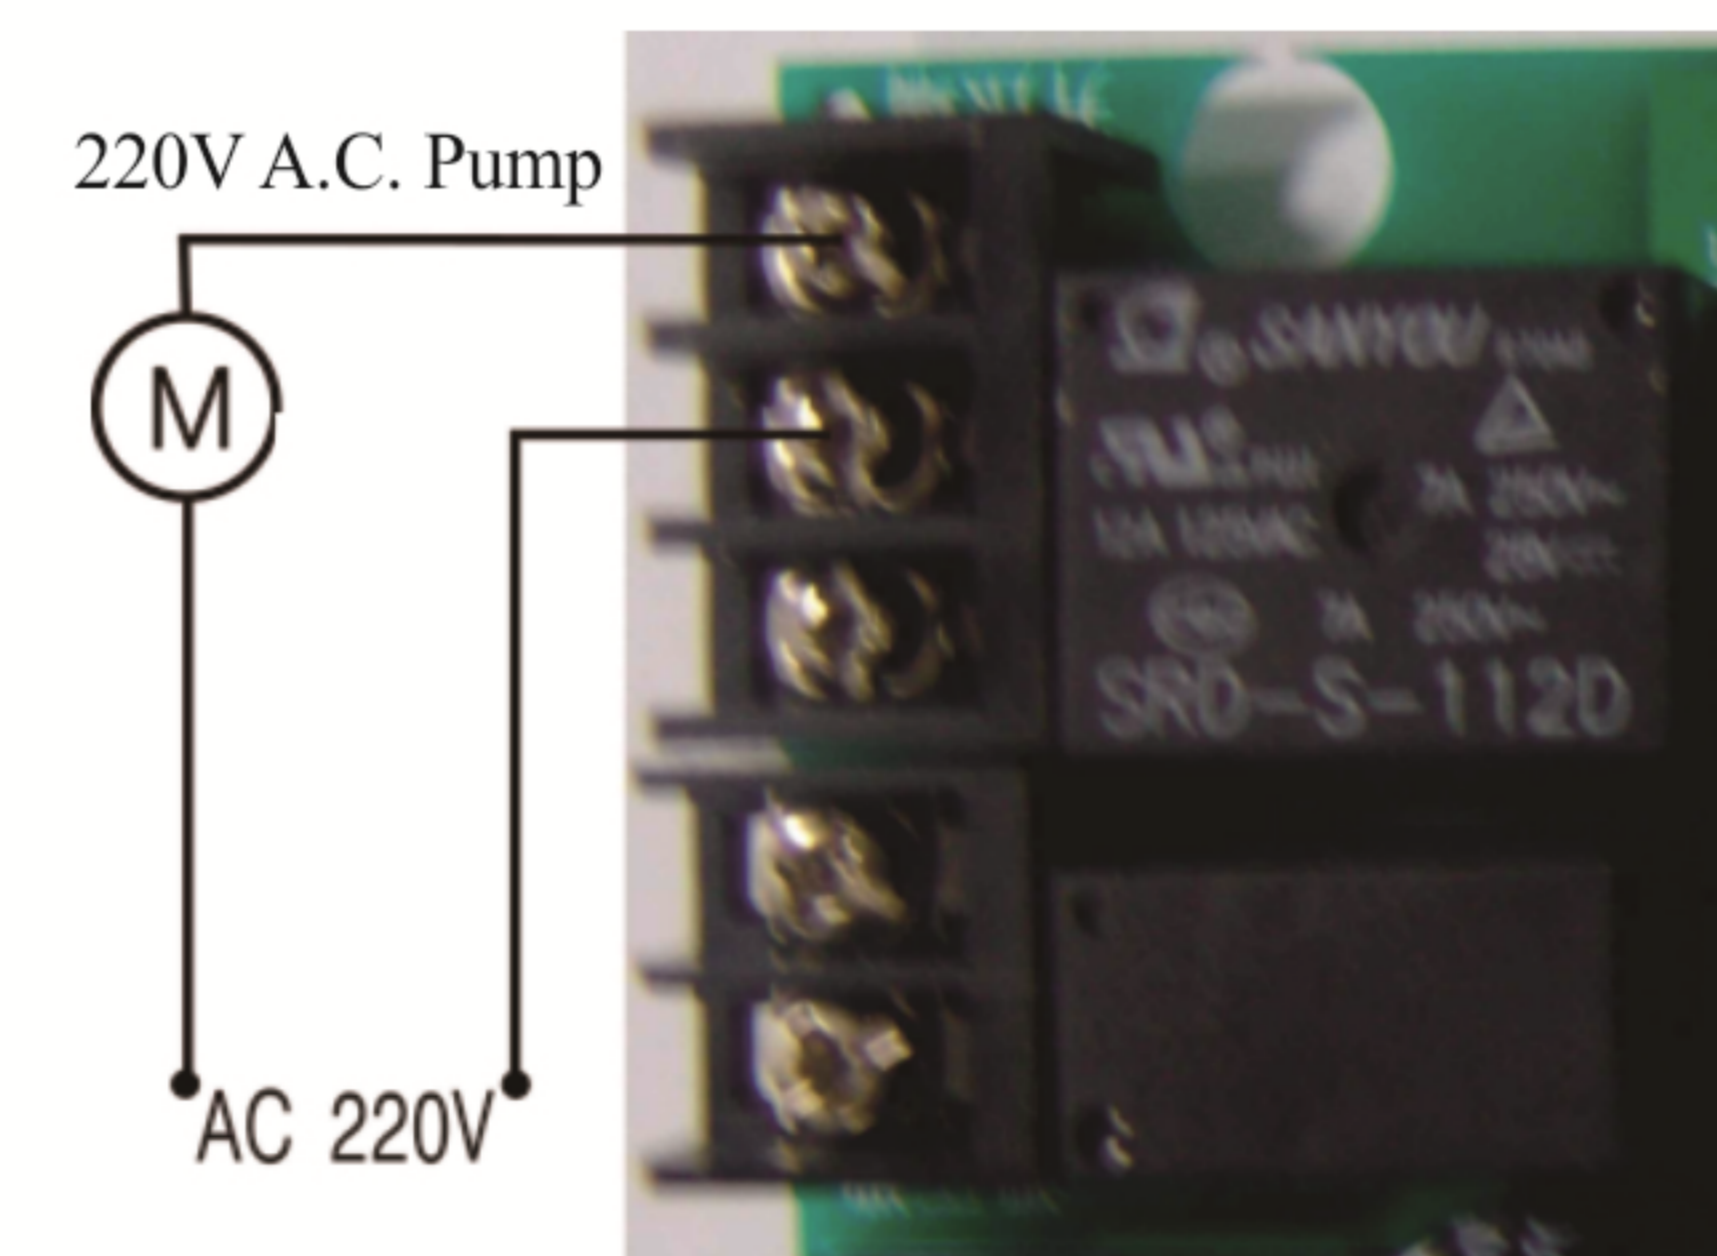
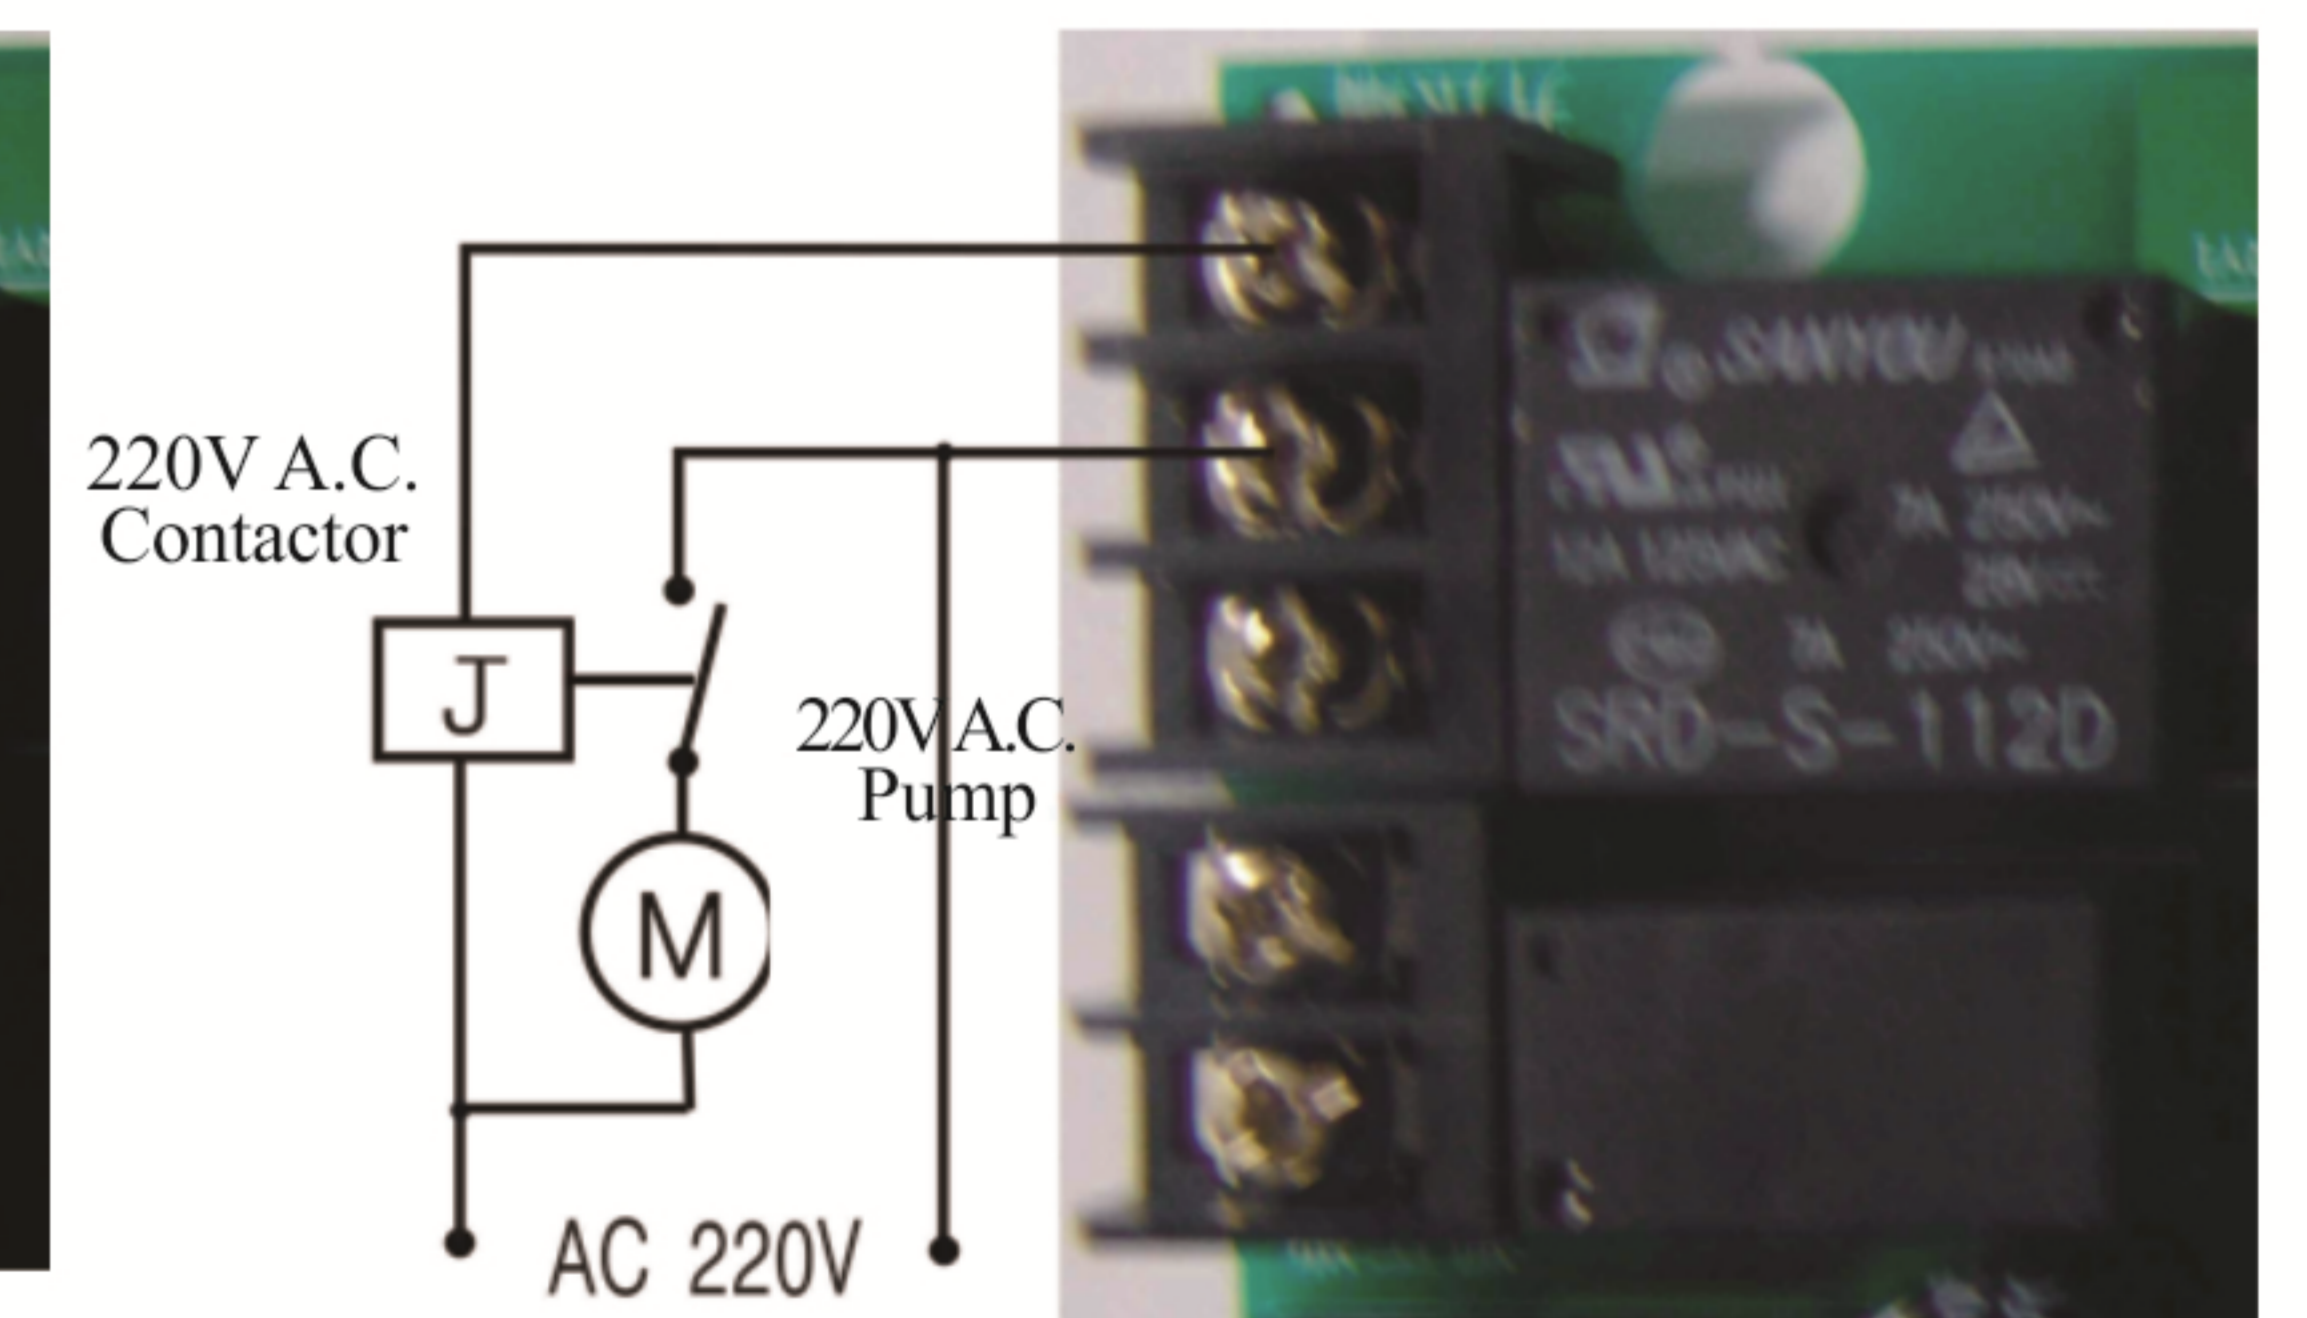

Figure 3-7 Wiring of Booster Pump on Inlet
Figure 3-8 Wiring of Booster Pump on Inlet
**Instruction:** If inlet water pressure is less than 0.15MPa, which makes backwash or brine drawing difficult, a booster pump is suggested to be installed on inlet. Set control mode as b-01. When system in regeneration cycle, booster pump opens, the wiring refers to Figure 3-7. If the booster pump current is bigger than 5A, system need to install a contactor, the wiring refers to Figure 3-8.